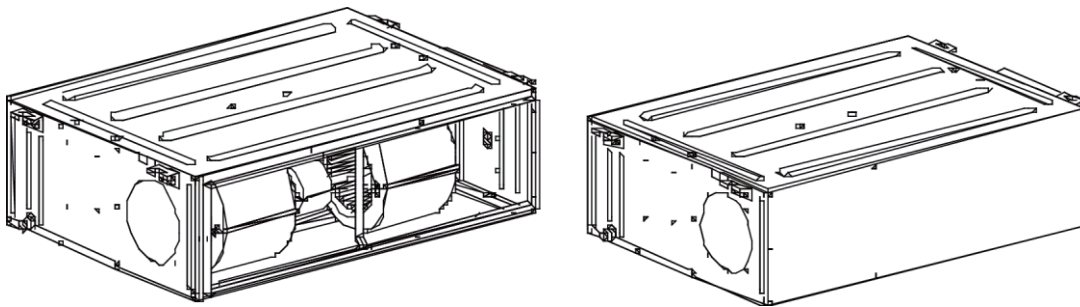

Fig 21
(1) The default installation location of the rectangular flange is at the back and the return air cover plate is at the bottom, as shown in Fig 21.